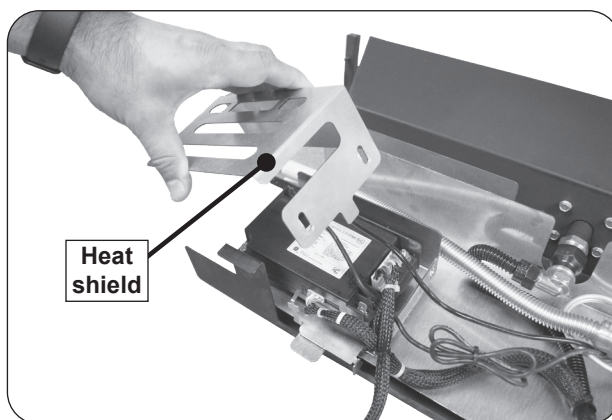

Fig. 1-3 Remove heat shield
2. Disengage the heat shield and remove it (see Fig. 1-3).